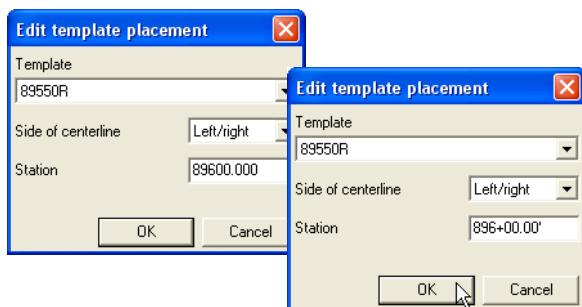

Figure 6-37. Enter Template Placement Information
2. Select and enter the following on the *Edit template placement* dialog box and click **OK** (Figure 6-37):
- Enter the *Station* value. Enter the value as a single number, 3D-Office will automatically convert to the station type (selected on the *Units* dialog box). See Figure 6-37 for an example.
- Enter the *Station* value. Enter the value as a single number, 3D-Office will automatically convert to the station type (selected on the *Units* dialog box). See Figure 6-37 on page 6-32 for an example.